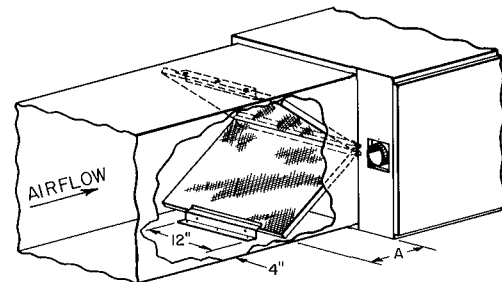
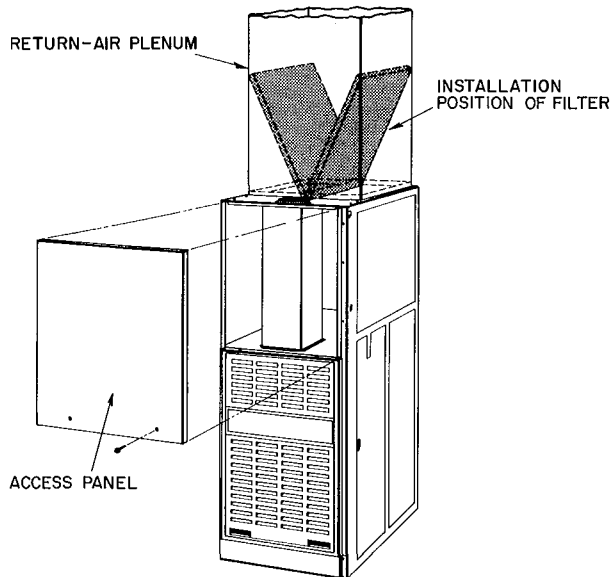

Fig. 10 — Horizontal Filter Arrangement (See Table 5. Brackets are field supplied.)
Fig. 11 — Downflow Filter Arrangement
FURNACE CASING WIDTH	DIM. A (Fig. 10)
- c. Install filter retainer kit (field supplied) before connecting return air duct to furnace. See Fig. 10 and Table 5. See note below.
V-formation inside return air plenum. See Fig. 10 and Table 5 for horizontal applications. See Fig. 11 for downflow applications.